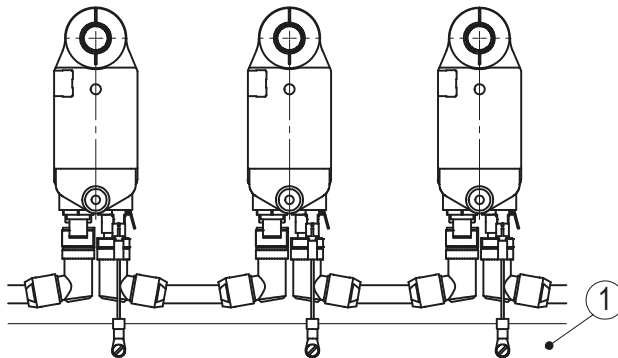

Fig. 8: Ground bar
For protection against interference, the screens of the signal lines and the power line must be connected on both sides. Potential differences cause inadmissible currents on the screen. Apply the PE connection ① to the protective conductor potential below the connecting plugs (see Fig. 8). Use 6,3 mm flat connectors with short strands 2,5 mm² ... 4 mm² (not in the scope of delivery). For multiple actuators we recommend connecting the earthing to a ground bar ① (see Fig. 8).